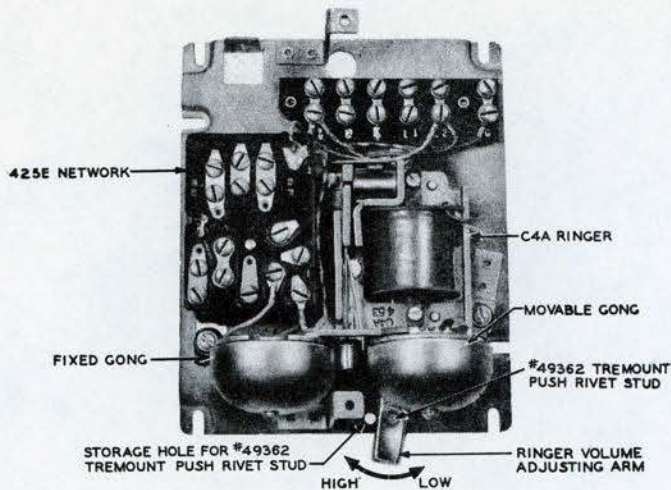

Fig. 6 - 685A Subscriber Set, Internal View
- (a) 685A: For use in manual or dial systems with all classes of service except 4-party selective and 8-party semiselective (Fig. 6).